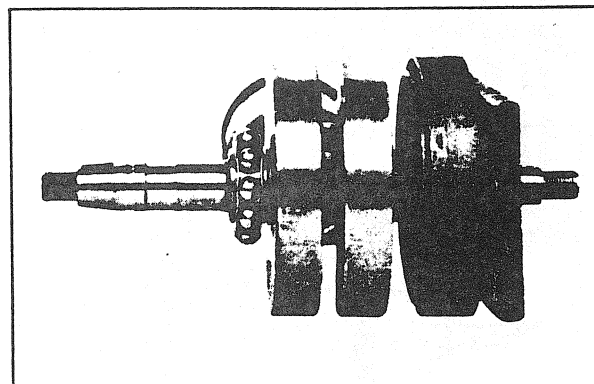

FIGURE 25
- With a bearing puller, remove the crankshaft bearings (fig. 25).